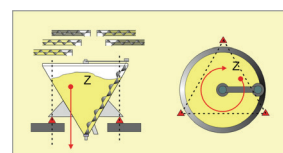

Figure 2. A conical mixer, mounted on load cells
- ▶ If this is not the case, it must be prevented that one or more load cells are overloaded while others hardly participate or are even negatively loaded. In particular with equipment with eccentric agitators, external drives and the like, the safe way is to calculate the load per support point separately, see figure 2.